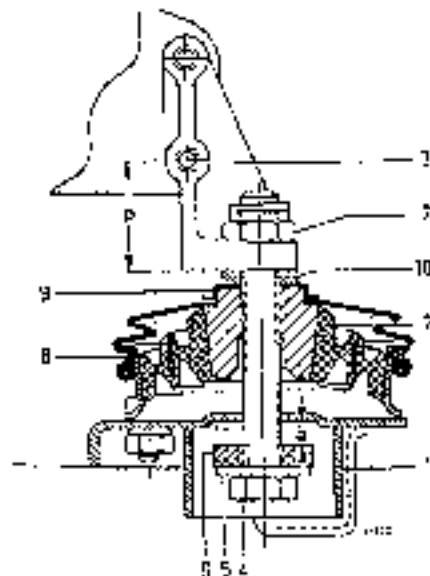

Fig. 24-1/5
The 1st version engine supports had a lower fixing eye (6 mm high) and the rubber mountings were attached by means of hexagon socket screws M 12 × 30 DIN 912-B G. In the case of 2nd version engine supports the height of the fixing eye was increased to 22.5 mm and hexagon screws with welded-on washers were used as fixing screws, the washer serving as a limit stop (Fig. 24-1/5). However, if longer engine supports with high eyes (22.5 mm) are installed **subsequently**, hexagon socket screws M 12 × 40 DIN 912-B G must be used, since the sub-frames were not provided with the necessary recess for the hexagon screw (4) before the limit stop mentioned above was introduced (see Fig. 24-1/5).